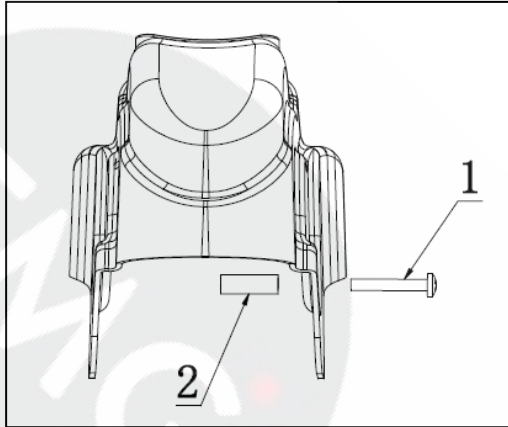
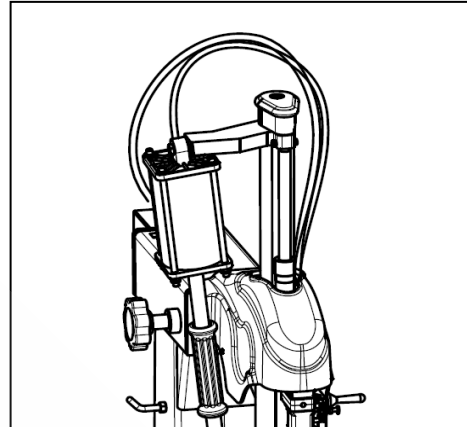

FIG19
FIG20
- Fix the protective cover (FIG18-1) to the square bar like FIG19 using 2 pieces of M6x40 screws (FIG19-1) from both sides. During installation, add the washers (FIG19-2) inside of the protective cover like FIG20 to avoid damaging the cover.